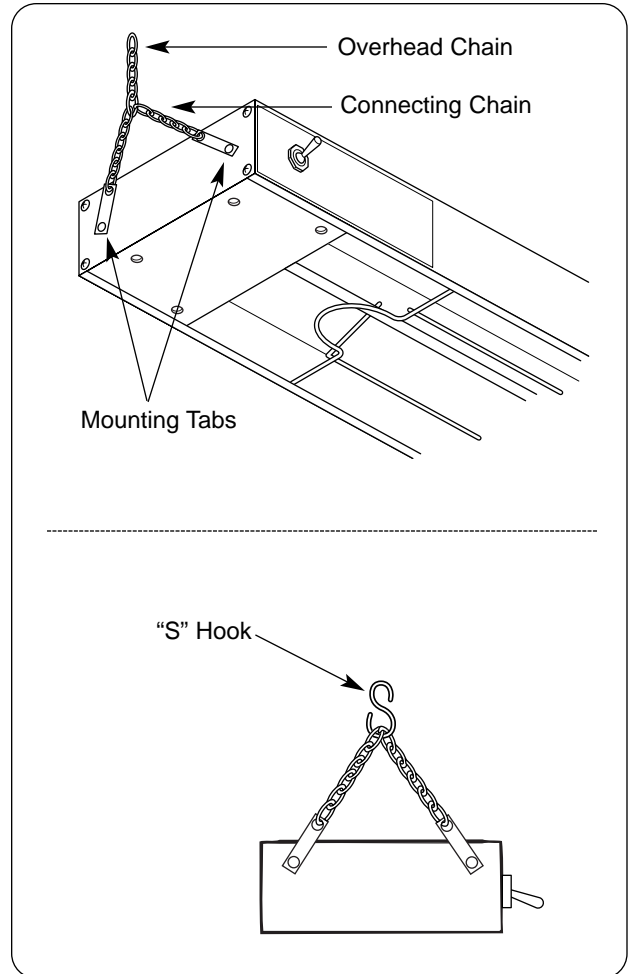

Figure 20. Mounting with Chains
2. Loosen but do not remove the screws securing the mounting tabs on each end of the unit. Extend the tabs, then tighten the screws securely. (See Figure 20.)
3. Attach a short piece of connecting chain to each pair of mounting tabs. (See Figure 20.)
4. Attach overhead chain to the connecting chain between the two mounting tabs. Repeat for other end of unit. (See Figure 20.)
2. Attach both "S" hooks to the overhead chains and ensure the unit is level. (See Figure 20.)